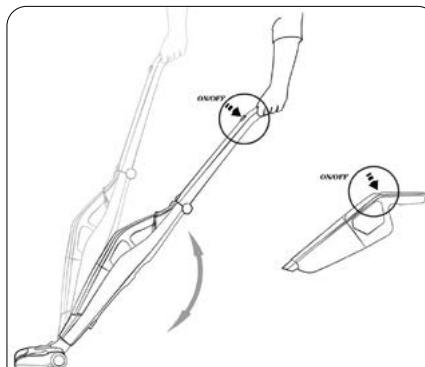
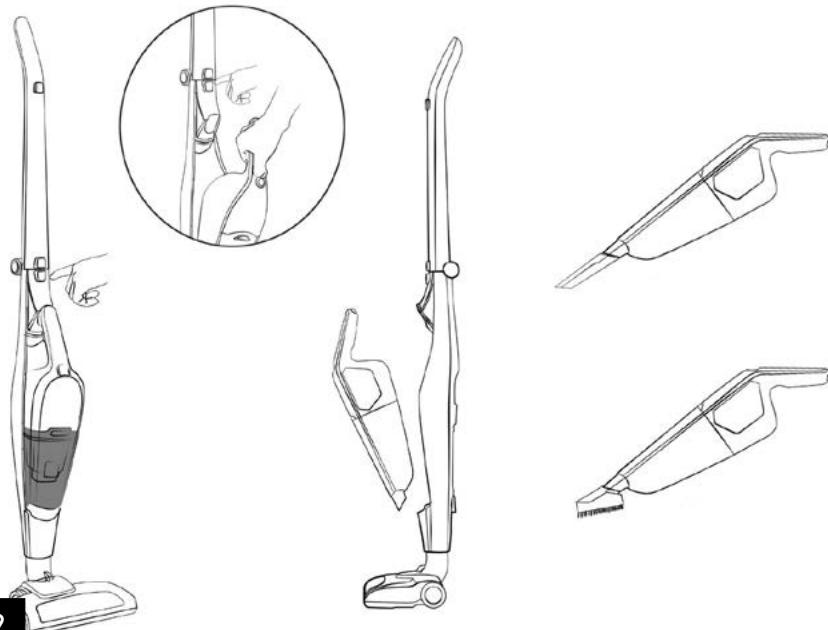

Fig. 8
Fig. 9
2. Start the vacuum cleaner with the button (6)
directly on the vacuum cleaner or with the button (1) on the main handle (fig.8). The operation of the buttons is independent of each other as long as the vacuum cleaner is in the main handle.
4. The electric brush (15) with LEDs (16) illuminating the vacuumed surface is activated together with the vacuum cleaner. The multifunctional electric brush is suitable for vacuuming all types of hard surfaces and carpets.
5. The use of additional vacuum cleaner accessories (small brush, crevice brush) is possible after removing the vacuum cleaner from the main handle. Press the button (4) and remove the vacuum cleaner from the main holder (2) and then connect a suitable accessory to the end of the vacuum cleaner (fig.9).